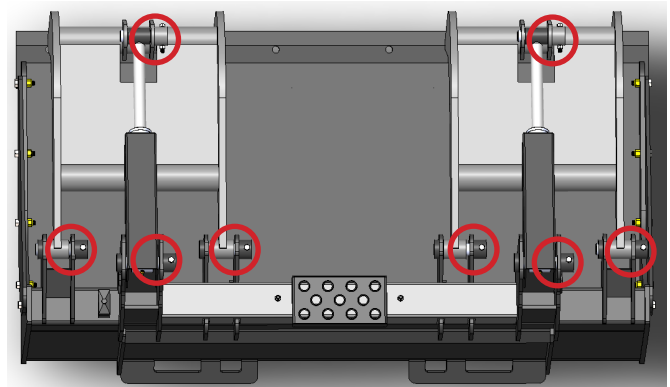

Figure 1
The Mini Double Clamp has eight (8) grease points. These points are circled in Figure 1.